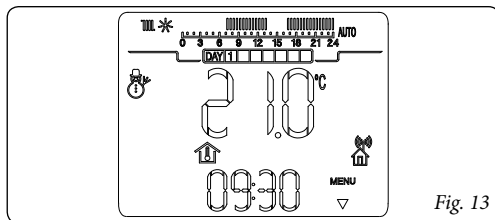

Fig. 13
- **Winter mode** (⊕). In winter mode the boiler is enabled for room central heating. In winter mode the CRONO 7 can function in automatic or manual mode. For the description of functioning see chapter 5. The display shows the day and current time, the room temperature and the hour bar with the daily programming of the central heating timer along with the relative symbols (fig. 13).